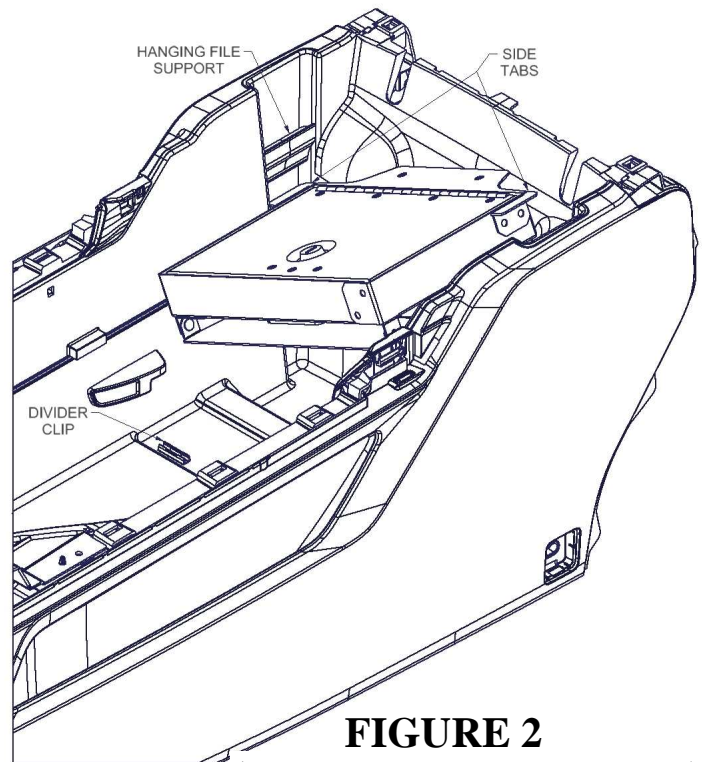

FIGURE 2
4. Open the factory console lid and remove the plastic divider in the bottom of the console by lifting it straight upward. **NOTE:** It is held by three clips. See **Figure 2**.
5. Fold the Console Insert legs into the shipping position and lower the insert into the console. By angling the right side of Console Insert (*side with lid support hardware*) into console opening first, the right “tab” will fit below the right hanging file support. See **Figure 2**.